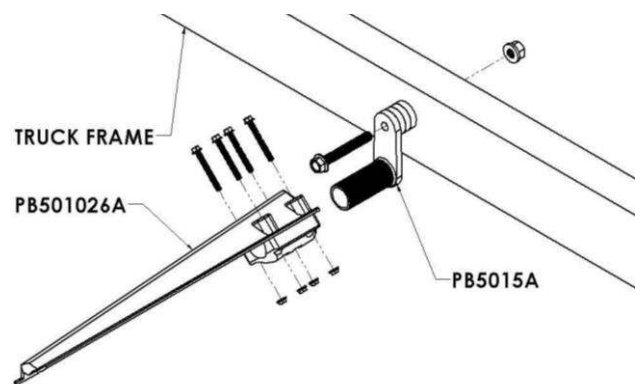

Figure 11
- A. Once the brackets are placed in position with the fender, securely tighten the 5/8" x 4-1/2" bolts that go through the PB5015 steel swivel to attach the swivel securely to the frame (Figure 11). **Recommended torque is 160-170 FT-LBS**